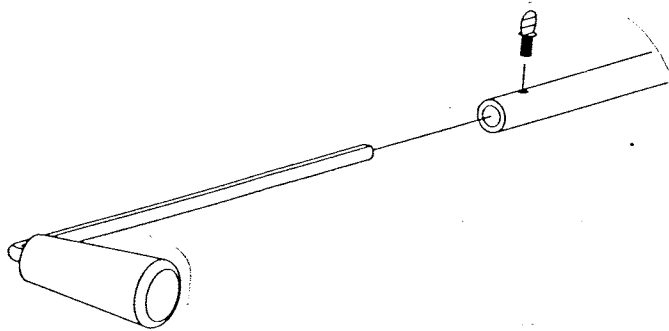

FIG. 13
5. If using brick facing, it will be necessary to lengthen the damper rod to allow for the extra depth of the brick facing. To lengthen: **See Figure 13.**